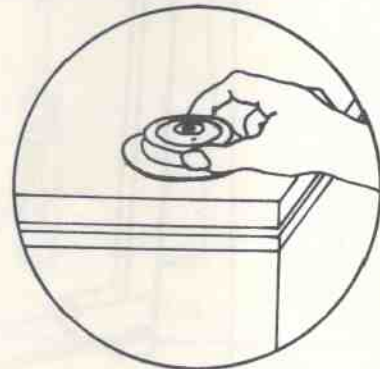

Fig. 11
5. Examine the level of the equipment with the help of a spirit level. (Fig: 11)